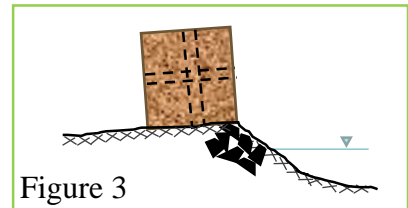

Figure 3
2. Pull the coir fiber plugs from both faces of the BioD-SuperLog™ exposing the invisible holes (Figures 3 & 4).